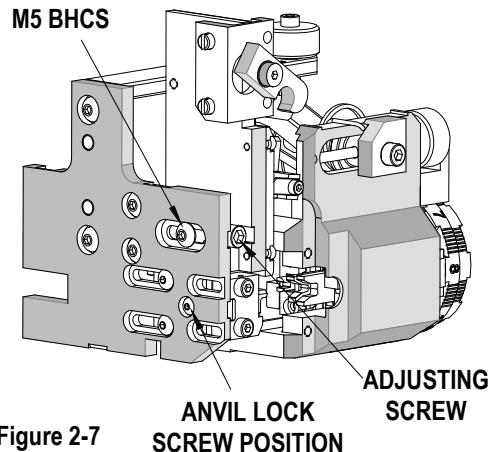

Figure 2-7
2. To move the track in the proper location with the anvils and the cut-off plunger take the applicator out of the press, and turn the applicator on its side. Loosen the M5 X 6 BHCS underneath the base plate which is attached to the track base. See Figure 2-7.
4. Remove the anvil lock screw from the bottom of the base plate. See Figure 2-7. Then remove the anvils from the groove on the base plate. Put in the new anvils, leaving the mounting screw loose. For tightening See Punch and Anvil Alignment.